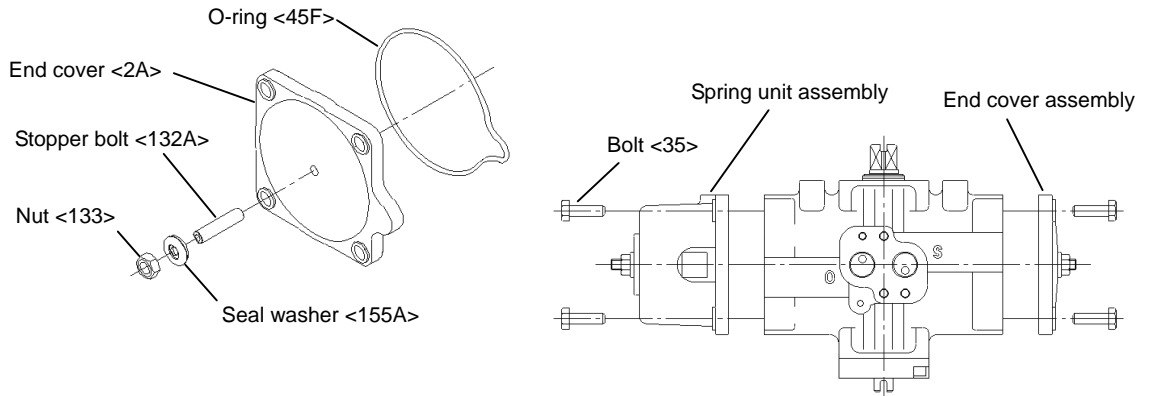

Fig.21
- (9) Mount the O-ring, stopper bolts, seal washers and nuts into the end cover and spring unit. Assemble the end cover and spring unit assembly into the housing (Fig.21). The threading torque values are provided in Table 3.